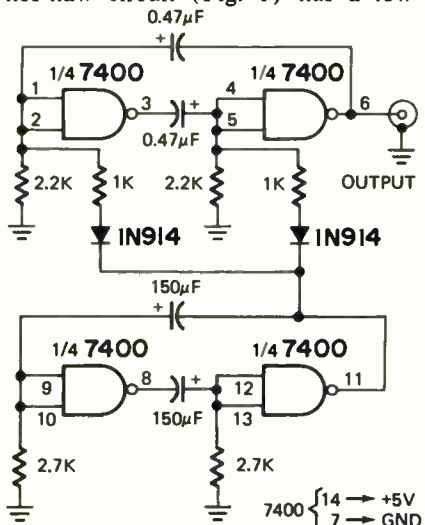

FIG. 1 — "HEE-HAW" TWO-TONE SIREN uses two 7400 IC's. The upper two gates form a multivibrator that controls the tone.
C. L. Holland, an Engineering Technologist for RCA, sent in a modification of a circuit he designed as an alarm for a digital clock. The alarm uses two gates of a 7400 IC cross-connected to form an astable multivibrator driven by the 1-pulse per second output of the digital clock IC. The hee-haw circuit (Fig. 1) has a low-
Let's start with the  $\pm 5$  volt to  $\pm 18$  volt dual power supplies. The schematic is shown in Fig. 1. The positive side of the supply is controlled by the  $\mu A723$  voltage regulator which consists of a temperature-compensated Zener, a voltage-reference amplifier, error amplifier, a series-pass transistor and current limit circuitry.
FIG. 1—DUAL POWER SUPPLY can provide between 5 and 18 volts at 1 amp. The negative side of the supply tracks the positive side. Two dual supplies are used. Interconnections for dual supply #1 is shown with circles. Squares denote the interconnections for dual supply #2.